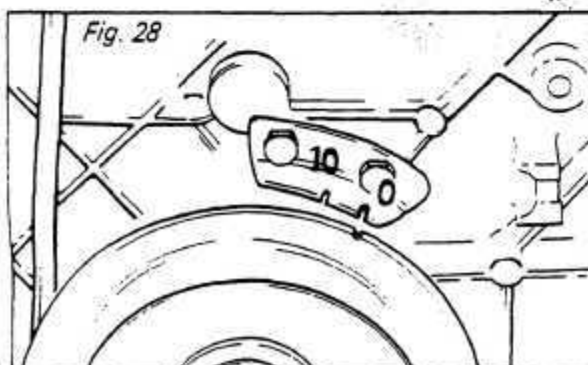

Fig. 28
Timing mark on crankshaft pulley opposite pointer (O) on timing cover. (Fig. 28)